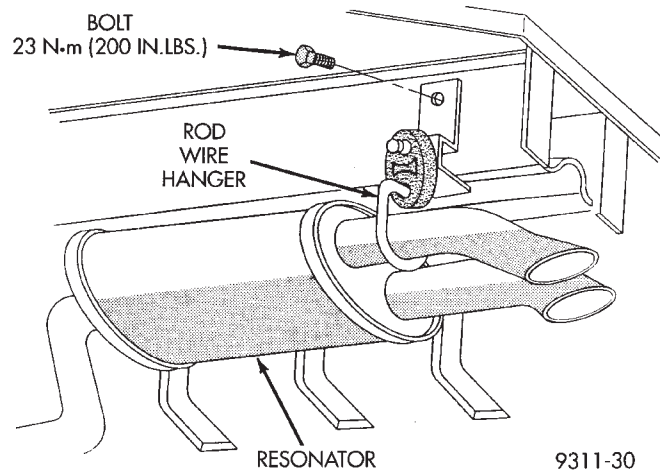

**Fig. 10 Tailpipe/Resonator Support Bracket
(1) With the exhaust system removed, cut the tailpipe/or resonator assembly intermediate pipe next to the rear suspension crossmember (Fig. 10).
(2) Install the correct tailpipe/resonator assembly onto the remainder of the intermediate pipe/tailpipe and loose assembly the accompanying clamp.
(3) Remove the exhaust support bracket(s) from the vehicle (Fig. 10).
(4) Install new exhaust support bracket(s) found on the replacement tailpipe/resonator assembly onto vehicle in the same location the old ones were removed (Fig. 10).
(5) Install exhaust system. Refer to procedure outlined in this section.